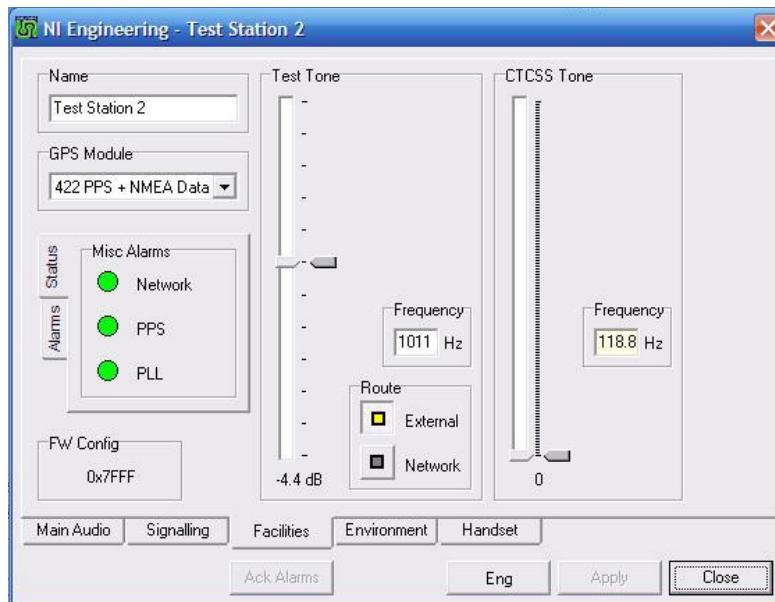

Figure 8. NI Engineering – Facilities tab, Test Tone settings.
- 19.2.3. Set the Test Tone Route to 'External' (see **Figure 8** overleaf).
- 36.1. On the Facilities tab, set the 'Test Tone' to a frequency of 1011 Hz and to a level of -4.4 dB. Set the Route to 'External' (see **Figure 8**).